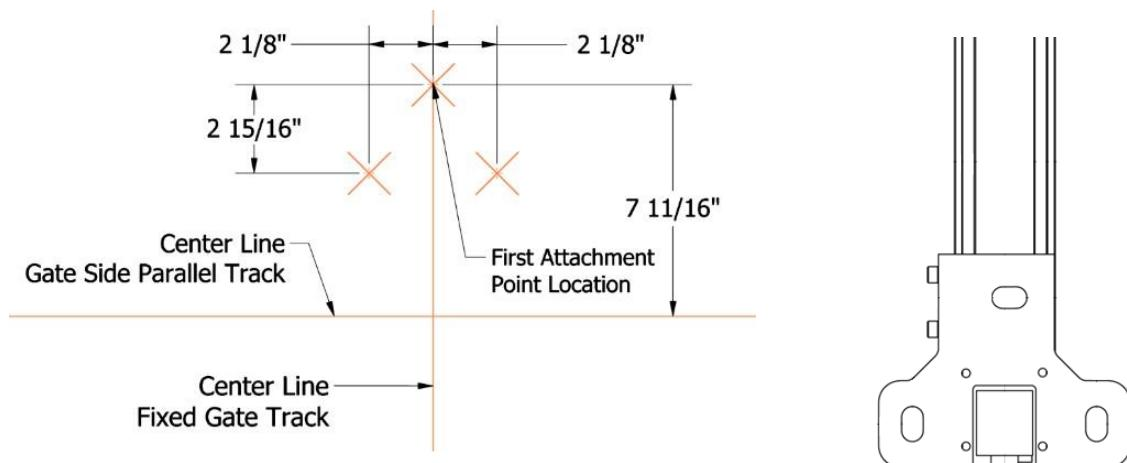

Figure 76: *Figure 76: 1000 lbs Capacity Transition —Three Attachment Points (Left: Spacing Between Points. Right: Top View of Bracket)*
- The 1000 lbs capacity transition gate requires three total attachment points—the one noted above is the only one that falls on the center line. Figure 76 shows the location of the additional required attachment points.